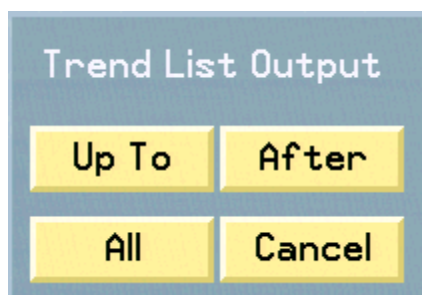

Fig. 83. Trend List Output popup
4. Press the **Record** or **Laser** button on the List Trends screen to display the Trend List Output popup (fig. 83).